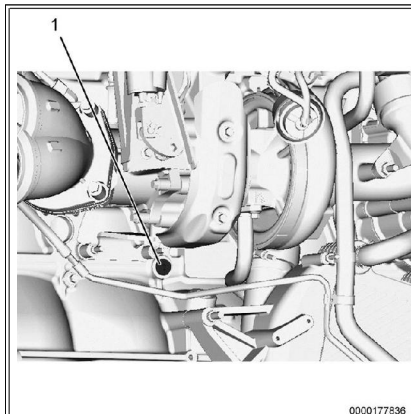

Figure 3: Oil Supply Tube Hex Socket Plug.
11. Install oil supply tube hex socket plug (Figure 3, Item 1) into oil supply inlet port in block. Using torque wrench, tighten socket plug to 52 lb-ft (70 N•m).